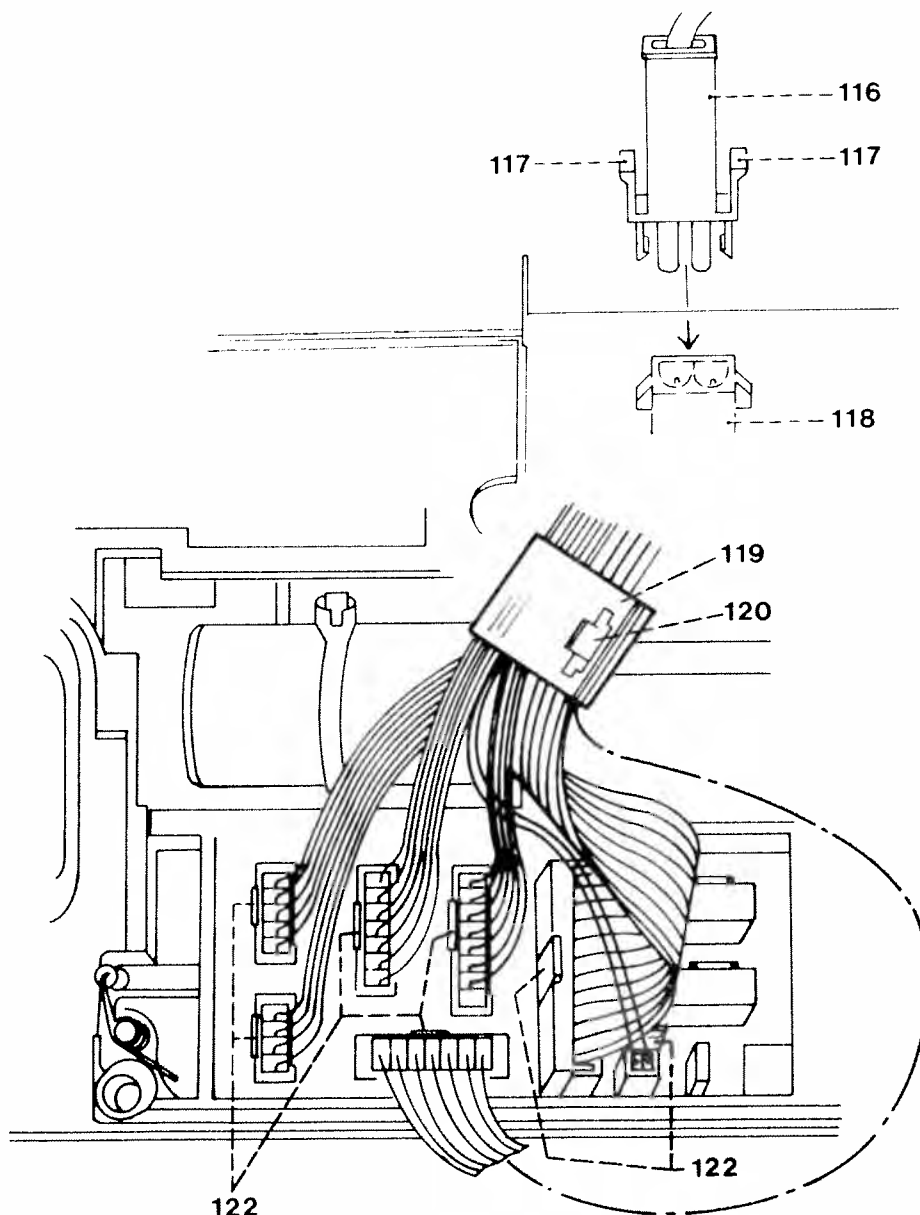

Fig. 27
- Lift catches 122 by 1–2 mm and remove the plug of the seven-wire cable from the printed circuit board (Fig. 27).
Fig. 27 b